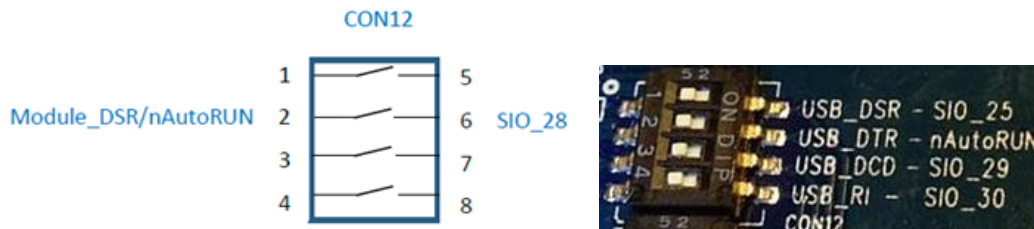

Figure 6: Micro DIP switch CON12 open (nAutoRUN controlled by J6 jumper on pin 1-2)
- CON12 (switch 2; that is pin 2-6) MUST be OPEN to allow nAutoRUN pin (SIO.28) to be controlled by J6 (with jumper fitted to J6 pin1-2 to select nAutoRUN (see Figure 6).